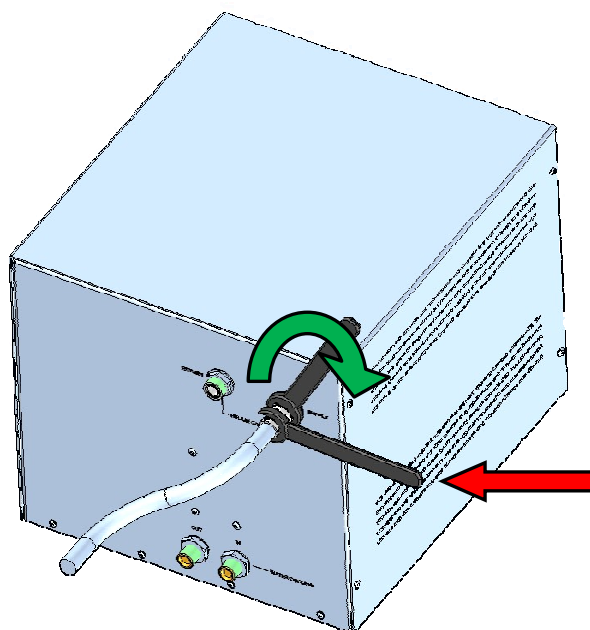

Figure 6 – Connection of a helium hose to the Cryodrive using two spanners
1. **To prevent damage to the couplings and leakage of the helium, you must use two spanners as shown in Figure 6.**